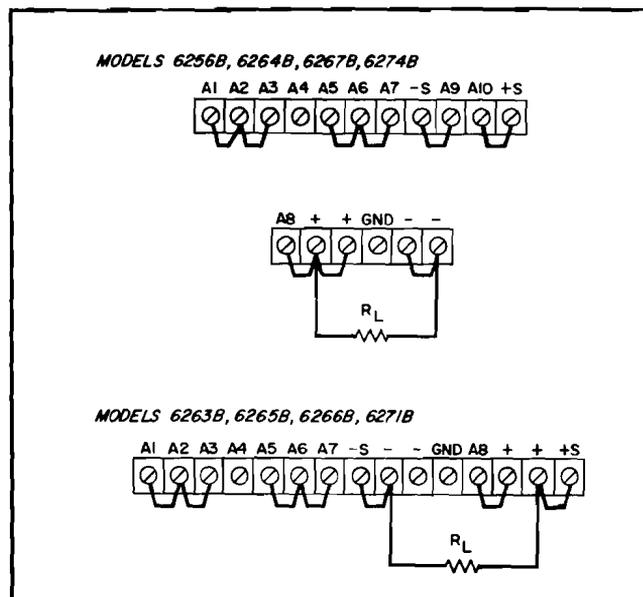
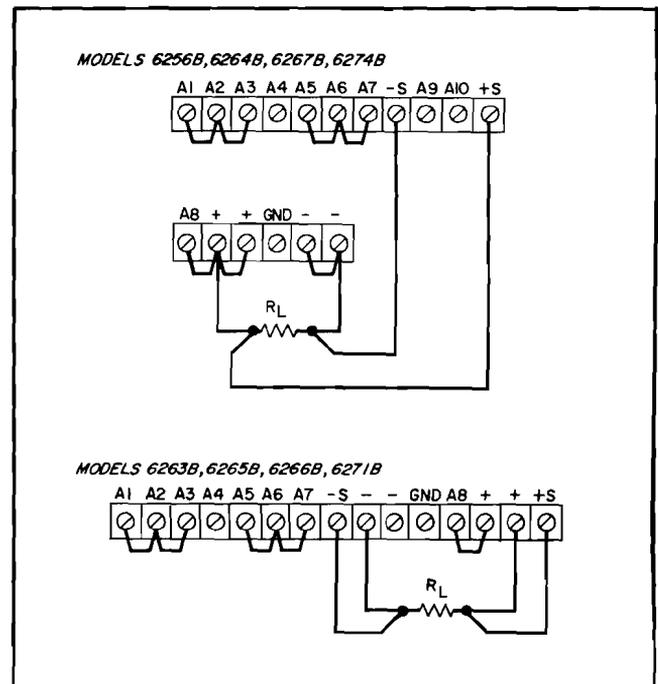

Figure 3-2. Normal Strapping Patterns
Figure 3-3. Remote Sensing
a. Turn CURRENT controls (7) and OVERVOLTAGE ADJUST potentiometer (5) fully clockwise and check that rear panel straps are connected as shown in Figure 3-2, but do not connect load  $R_L$ .
terminals (see Figure 3-2), and turn it back on.
3-7 This power supply was shipped with the proper rear panel strapping connections made for constant-voltage/constant-current operation with local sensing and local programming. This strapping pattern is illustrated in Figure 3-2. By means of the front panel voltage and current controls, the operator selects either a constant-voltage or a constant-current output. Whether the supply functions in the constant-voltage or the constant-current mode depends on the settings of the voltage and current controls and on the resistance of the output load. For values of load resistance greater than a critical crossover value equal to the voltage setting divided by the current setting, the supply
3-26 Because of the unavoidable voltage drop developed in the load leads, the normal strapping pattern shown in Figure 3-2 will not provide the best possible voltage regulation at the load. If, for example, one were to use 8-gauge wire to connect a load that is located only 5 feet from a Model 6256B 10V 20A supply, the regulation measured at the load would be about 120 millivolts as compared to the 1.2 millivolt regulation that could be measured at the supply's output terminals. Thus even relatively short load leads can cause a considerable degradation of the supply's performance. The remote sensing connections shown in Figure 3-3 improve the voltage regulation at the load by monitoring the voltage there instead of at the supply's output terminals. (The advantages of remote sensing apply only during constant voltage operation. This is because in the constant current mode the resistance of the load leads has no adverse effect on a supply's performance.)
3-27 As can be seen in Figure 3-3, remote sensing involves removing the (+S) and (-S) jumpers from the rear panel terminals, connecting the load leads normally, and using a separate pair of wires to connect the (+S) and (-S) sensing terminals to the load. The following paragraphs discuss some precautions that should be observed when making a remote sensing installation.
*The (+S) jumper is the one that links the (+S) terminal to the (+OUT) or (A10) terminal when the supply's terminals are strapped for normal operation as shown in Figure 3-2. The (-S) jumper is the one that links the (-S) terminal to the (-OUT) or (A9) terminal.*